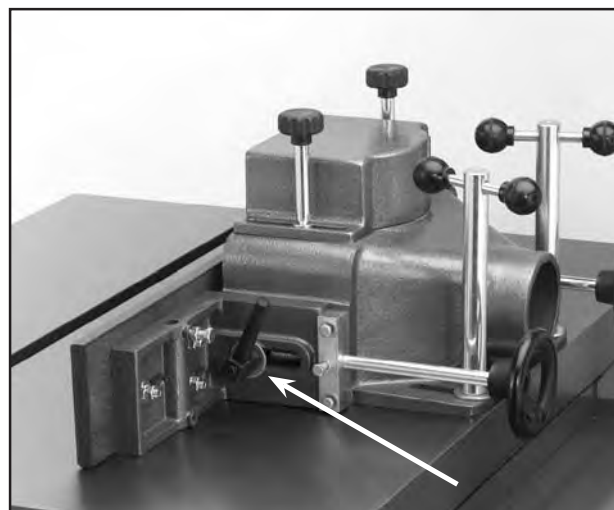

Figure 31. Location of fence locking handles.
1. Loosen the locking handles shown in **Figure 31** that hold the fences in place.